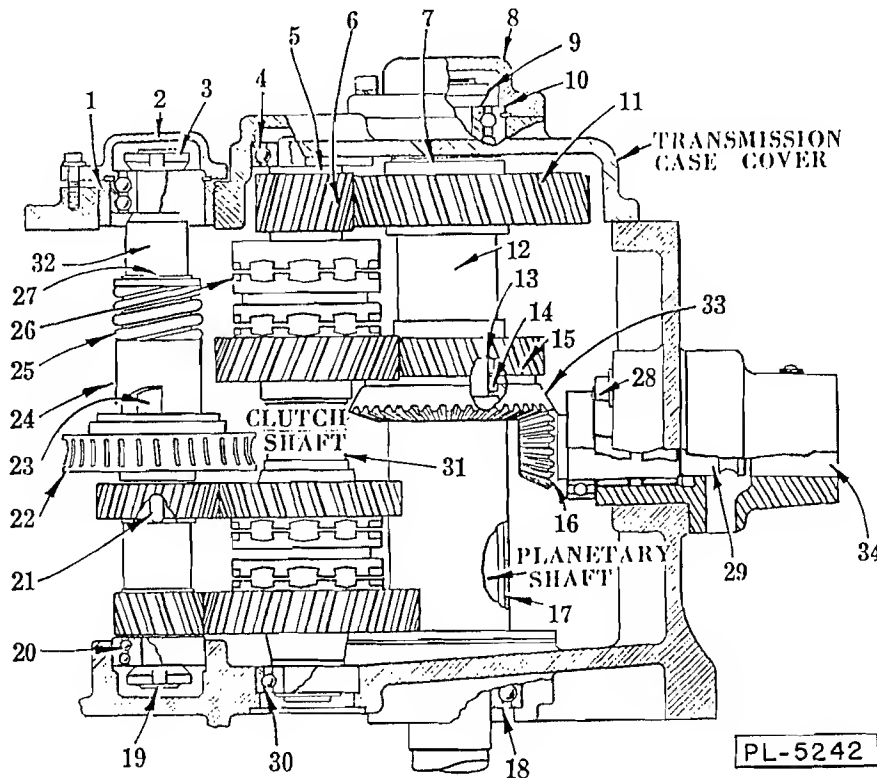

Fig. 7
To remove the transmission case cover take off the bearing retainers (2 & 8, Fig. 7). Take off the locking nuts (3 & 9, Fig. 7) and pry off the transmission case cover. The top ball bearings will come off with it. Lay the cover aside carefully so that the oil-delivery tube (2, Fig. 2) will not be bent.
The clutch shaft and worm-gear shaft (31 & 32, Fig. 7) must be removed together. The worm gear shaft has a self-aligning ball bearing (20, Fig. 7) at the bottom, so that it can be tilted away from the worm far enough to clear it. Lift off the upper gear (11, Fig. 7) on the planetary shaft. Notice that the shim (7, Fig. 7) on top of this gear has the relieved side up.
On the clutch shaft, remove the bearing (4, Fig. 7), washer (5, Fig. 7), top pinion (6, Fig. 7), and clutch (26, Fig. 7). Then work the clutch shaft and worm-gear shaft assemblies out together.
If the lower bearing (18, Fig. 7) must be withdrawn, it will be necessary to first remove the chimney (17, Fig. 7). When replacing the chimney, be sure to get a good seal between it and the transmission case, to prevent leakage of oil.
The attachment hub (34, Fig. 7) is fastened to the transmission case by four bolts (28, Fig. 7).
The heads of these bolts being inside the ease, a partial disassembly of the transmission will be necessary before the attachment socket or the bevel pinion (16, Fig. 7) can be removed.
Replacement of the square drive sleeve (29, Fig. 7) however, can be accomplished without disturbing any of these parts. SEE REPLACEMENT OF SHEAR KEY, paragraph H, page 10.
Start disassembly of the worm-gear shaft from the bottom. When the locking nut (19, Fig. 7) is off, the gears and other parts will be loose on the shaft and may be taken off easily.
When re-assembling, put on the retaining ring (27, Fig. 7), the spring (25, Fig. 7), the shock absorber part (24, Fig. 7) and the worm gear (22, Fig. 7). It will then be necessary to use a vise or press to get these parts up where they belong. Press the worm gear up far enough to permit insertion of the key (21, Fig. 7). Release the vise pressure carefully and avoid burring the worm gear because the bottom of the hub acts as a thrust bearing. The key (21, Fig. 7) will hold the assembly in place until the remaining parts can be threaded on and pulled up tight by the locking nut (19, Fig. 7).
When a sudden load causes the worm gear to turn slightly on its shaft, the cams (23, Fig. 7) move the compressor element (24, Fig. 7) upward so that the spring takes the shock.
When re-assembling the transmission, be careful not to cock the outer race of the self-aligning ball bearing (20, Fig. 7). It is possible to install the worm gear shaft by itself and then raise it far enough to get the clutch shaft in place without pulling the bearing (20, Fig. 7) out of its seat. This will avoid the risk of cocking the outer race.
The worm gear must mate properly with the worm on the motor shaft, and a vertical adjustment is provided by a sleeve (1, Fig. 7). The sleeve is correctly set at the factory and locked by two small set screws, so unless replacements have been made no change will be necessary.
- (1) See that the transmission case cover is bolted down tight.
- (2) Take out the two small set screws (one on top of the other) that lock the sleeve (1, Fig. 7). Turn the sleeve (1, Fig. 7) a fraction of a turn in a clockwise direction until the motor shaft begins to bind when revolving the rotor by hand.
- (3) Turn the sleeve counter-clockwise until the same thing occurs in the top position.
- (4) The total movement may be as much as half a turn. Mark the half-way point. Set the sleeve about midway between the half-way point and the top position. This will bring the worm gear on the high side of center, as it should be.
- (5) Use a drill to spot the adjusting sleeve for the set screw. A second set screw goes into the same tapped hole to lock the first one.
All gears in this assembly must be free to turn on the shaft and the clutches should slide freely up and down on the splines. If a clutch seems to bind, take it off, turn it to a new position and try again. The top and bottom gears must have a few thousandths end play between the shaft shoulders and the washers that are between them and the ball bearings. The lower bearing (30, Fig. 7) on the clutch shaft must be assembled to take the downward thrust (thin section of outer bearing race up).
An "O" ring (14, Fig. 7) is set in the bevel gear to prevent oil leakage down the planetary shaft. When moving the bevel gear (33, Fig. 7) on the shaft, be careful not to cut the "O" ring on the keyway (13, Fig. 7) that is just above it.
The bevel gear adjustment is governed by the thickness of the planetary-shaft shim (7, Fig. 7). This shim must be installed with relieved side up and the flat side down.
A new shim may be required if gear (11, Fig. 7), gear (15, Fig. 7), spacer (12, Fig. 7), or top bearing (10, Fig. 7) is replaced. A new bevel gear or pinion should not require any change in shims.